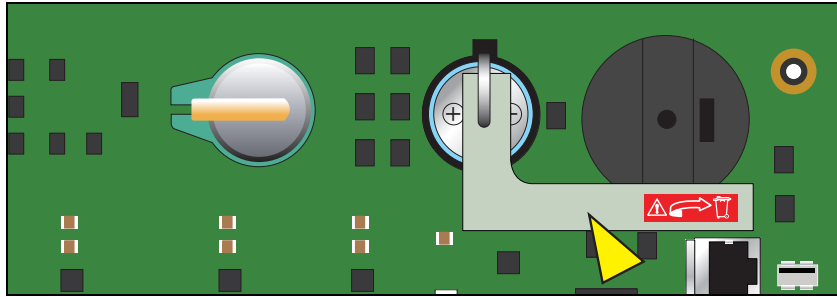

Figure 15. Remove TLS-450PLUS CPU Board Battery Isolator Strip
19. Remove the battery isolator strip from under the battery hold-down clip (see Figure 15).